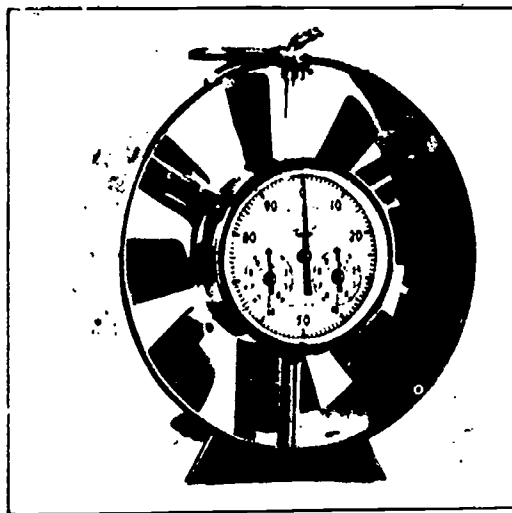

Fig 1-15. Anemometer.
e. Anemometer (fig 1-15). The anemometer is used to measure air velocities at duct openings. It is moved across the entire area of the duct opening for a given period of time and the average velocity in feet per minute is calculated.